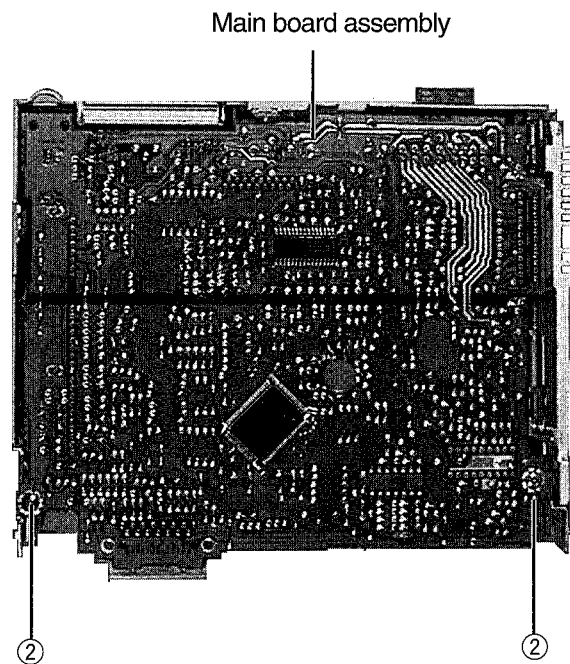

Fig. 6
■ **Removing the Main Board Assembly ( See Fig. 6 ,7 )**
4. Remove the two screws ② retaining the main board assembly.
5. Remove the three screws ③ retaining the rear panel .